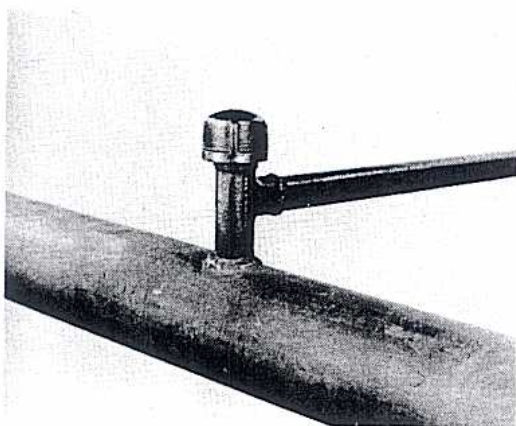
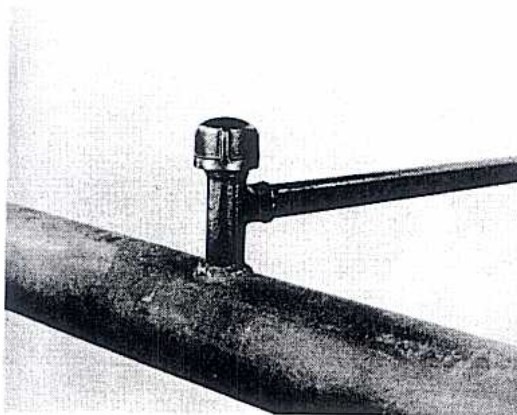

FIGURE 18
FIGURE 19
- 13a. **p** For Valve Tees. FIGURE 18.
- (1) Tighten completion plug with completion plug wrench.
- (2) Apply non-hardening pipe thread "dope" to completion cap threads and screw cap tightly on Tee.
- 13b. For Valve Tees. FIGURE 19.
- (1) Tighten bushing with completion plug wrench.
- (2) With screw driver turn stem **counter-clockwise** to back seat against the bottom of the bushing.
- (3) Apply non-hardening pipe thread "dope" to completion cap threads and screw cap firmly on Tee.